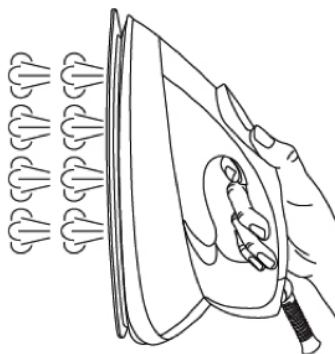

FIGURE 7
2. Hold the iron in a vertical position (Figure 7) 15 to 30 centimeters away from the garment.